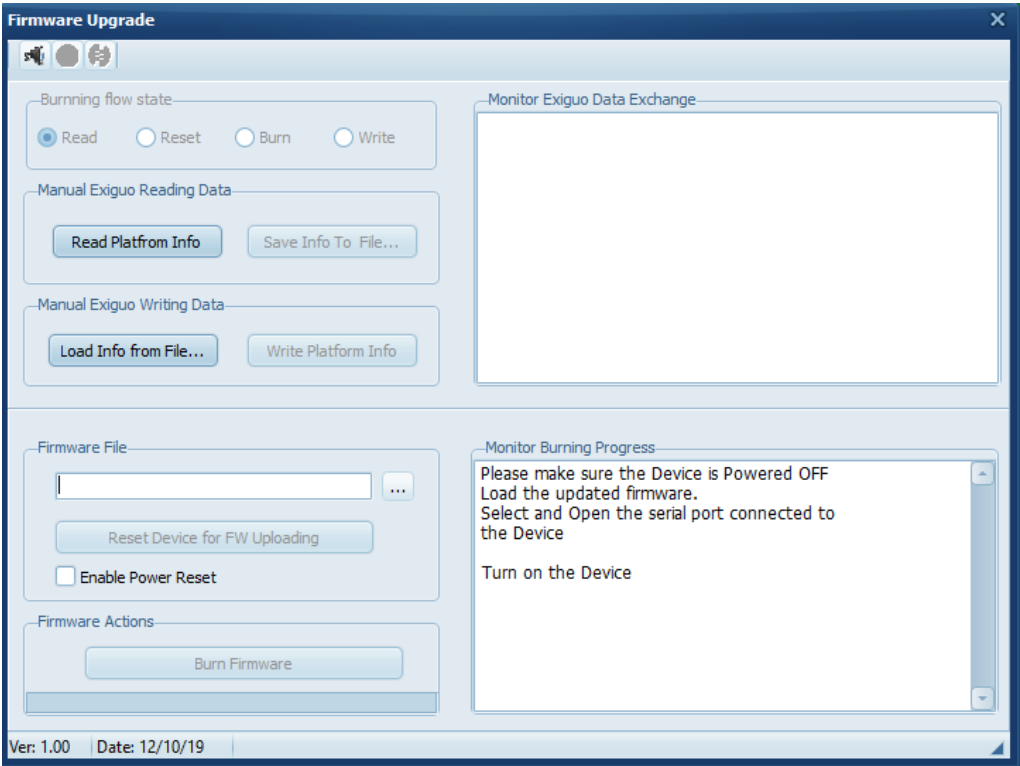

Figure 20. Firmware Update
3. In the group of three left-most buttons (Figure 20):